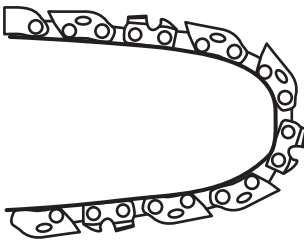

Fig. 5
- Check the chain tension using one hand to lift the saw chain (6) against the weight of the product. The correct chain tension is achieved when the saw chain can be lifted by approx. 2-4mm from the guide bar (7) in the centre. (See Fig. 5, 6)